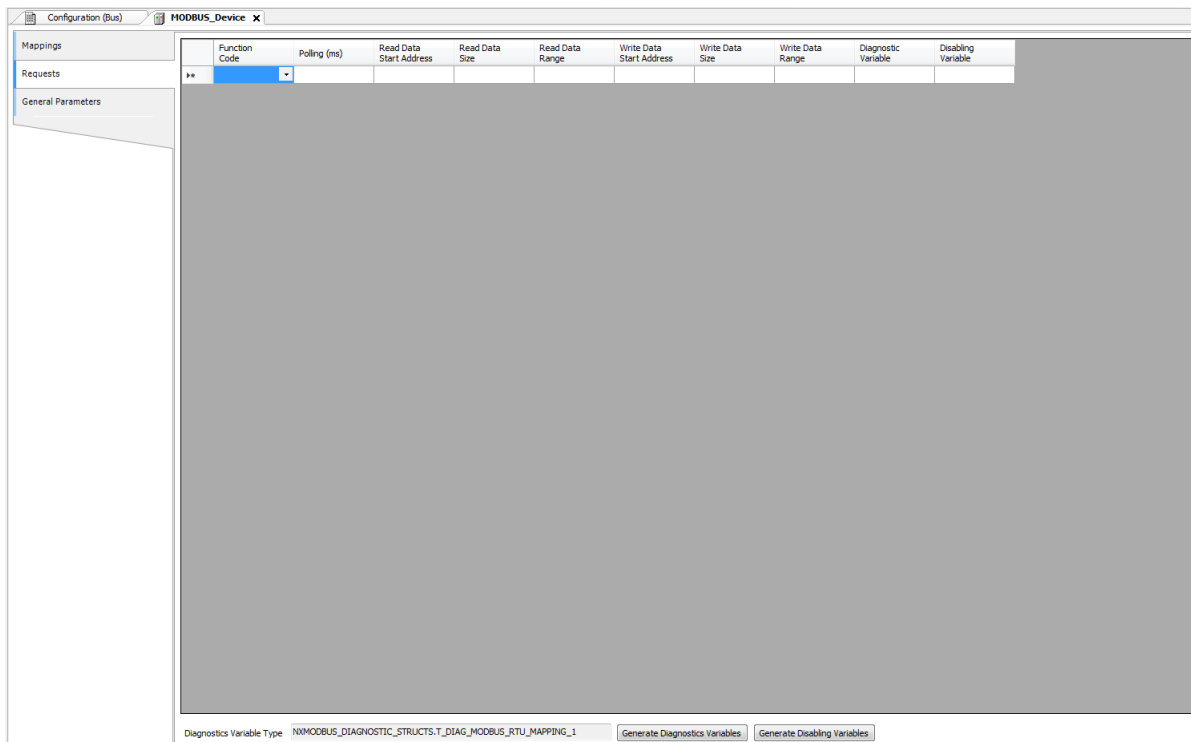

Figure 57: Data Requests Screen MODBUS Master
- Add and configure the MODBUS requests as presented in Figure 57, specifying the function, the scan time of the request, the starting address (read/write), the data size (read/write) and generate diagnostic variables and disabling the request via the buttons at the bottom of the window.